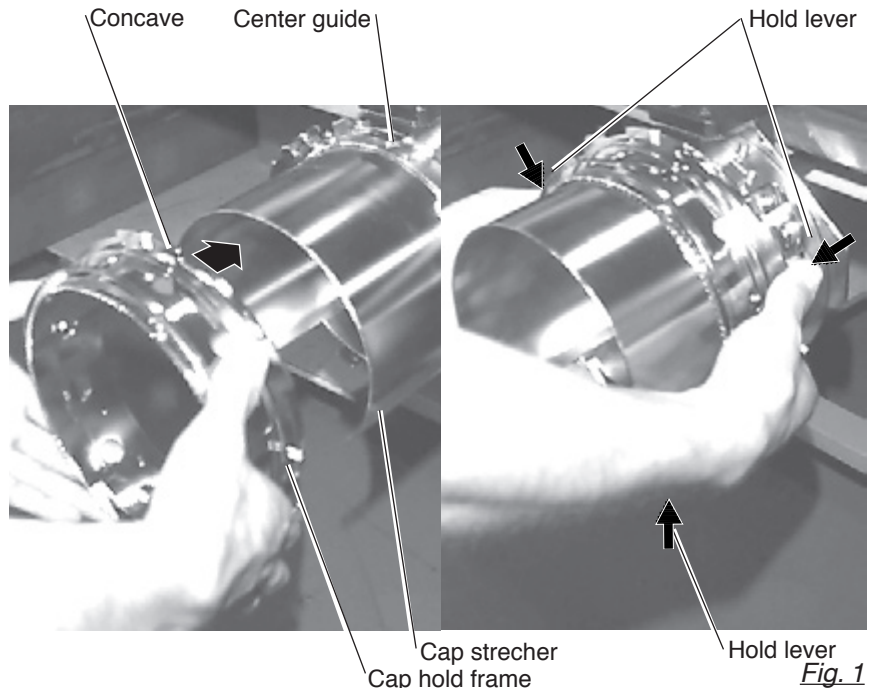

Fig. 1
The adjustment to be done by two adjusting screws. (Fig. 1)
2. As shown in Fig. 1, hold cap hold frame with both hands and place on cap stretcher. By pushing hold lever at 3 places in arrow marks with fingers, place cap hold frame so that center guide of cap stretcher gets in concave of upper cap hold frame.